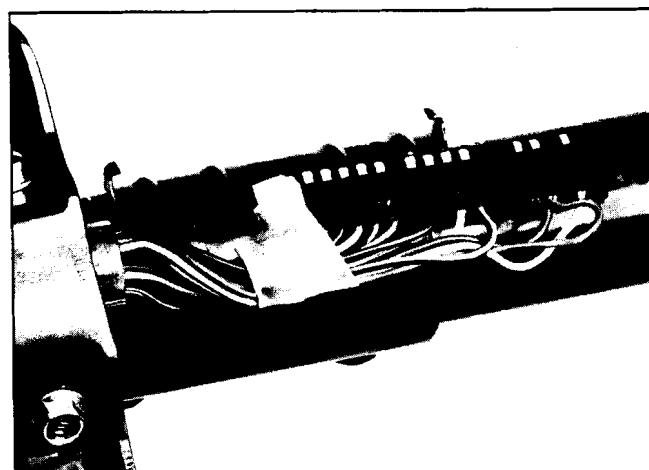

Fig. 9-24 Connector and Wires with Tape
8. Pull the turn signal wiring connector out of the bracket on the jacket and disconnect. Wrap a piece of tape around the upper part of the connector and wires to prevent snagging when removing switch (Fig. 9-24).